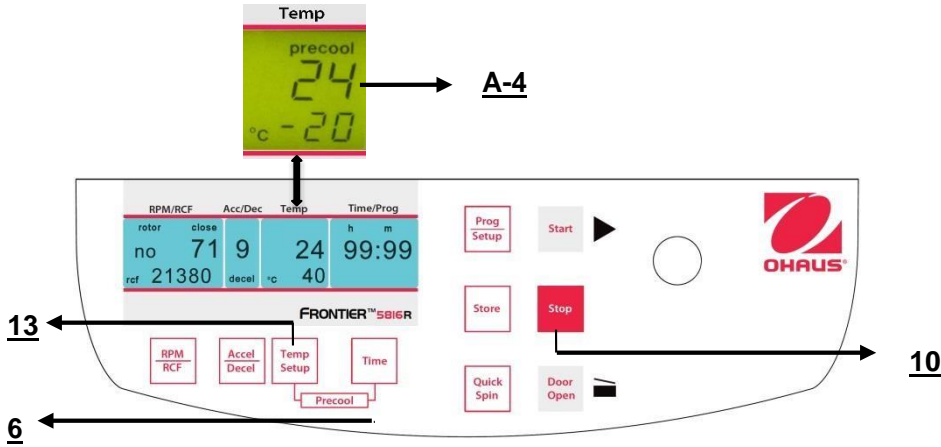
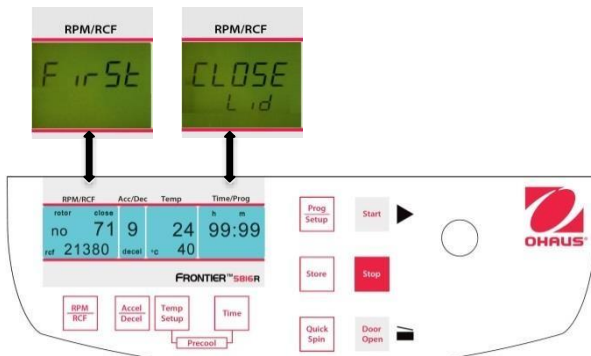

Figure. 23
Figure. 26
Close the lid of the centrifuge. Now proceed as described previously to set all important run parameters. If the lid isn't closed when storing the program, in the display "RPM/RCF" (A-1), the words "FirSt" and "CLOSE Lid" (See figure 23) flashes alternately. If you want to start the run without storing the program, in the display "RPM/RCF" (A-1), the words "First" and "PrESS StoreE" (See figure 26) flashes alternately.
For adaption of data press the key **"Store"** (12) (refer to figures 26 and 27) for approx. 1 second. If the program is stored correctly, the word **"StorE"** appears in the display **"RPM/RCF"** (A-1). As a result, the word **"programm"** (M10) disappears.
You can start the centrifuge either with the **"Start"** key (9) (refer to figure 26) or the **"Quick Spin"** key (8).